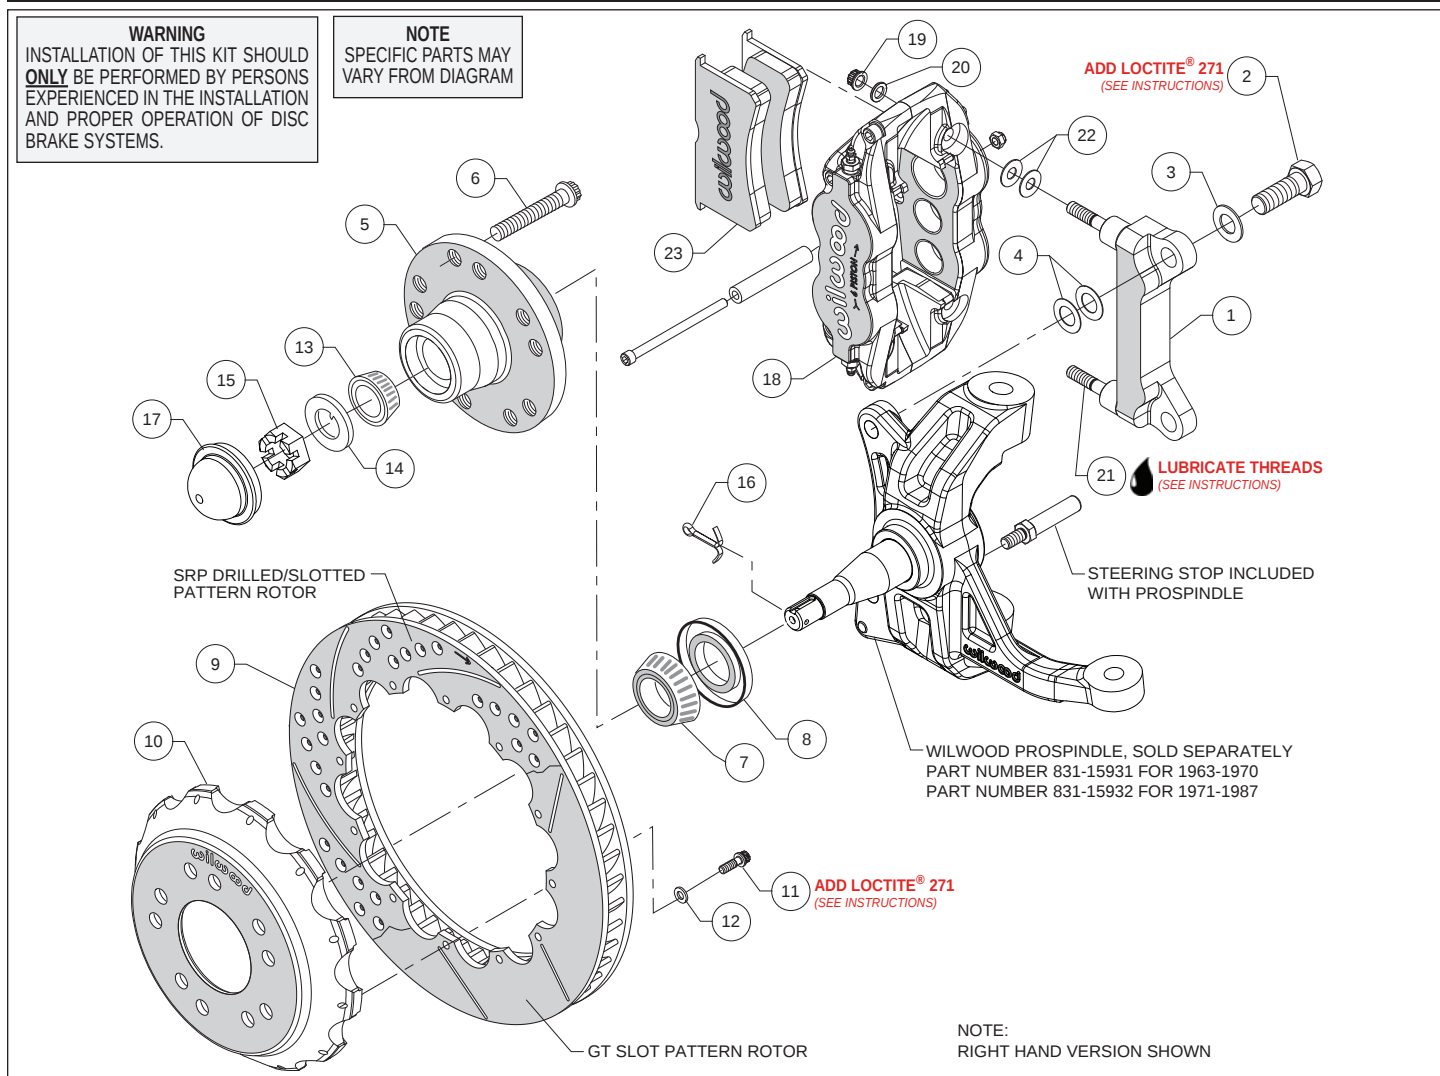
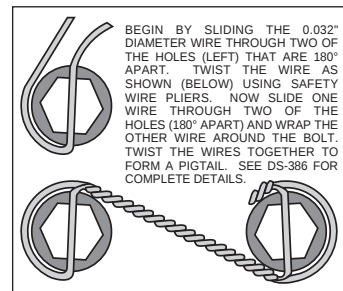

Figure 1. Typical Installation Configuration
Figure 3. Safety Wire Diagram
Assembly Instructions (numbers in parenthesis refer to the parts list and Figure 1 on the preceding pages):
- Install the steering stop bolt (included with the ProSpindle) into the spindle as shown in Figure 1 and Photo 1. Torque to 25 ft-lbs.
- The caliper mount bracket (1) should initially be installed with clean, dry threads on the mounting bolts. Orient the bracket, as shown in Figure 1 and Photo 2, and install using bolts (2) and washers (3). Initially place two .024" thick shim (4) on each bolt between the bracket and spindle, Figure 1. Temporarily tighten the mounting bolts. **NOTE:** The bracket must fit squarely against the mount bosses on the spindle. Inspect for interference from casting irregularities, machining ridges, burrs, etc. Later, after the caliper alignment has been checked, the mount bolts will be secured using red Loctite® 271.
- Press the dust cap (17) into the hub (5). **NOTE:** Do not hammer center of cap. Install using outer flange only.
- Orient the rotor (9) and the hat (10) as shown in Figure 1 and Photo 7. Attach rotor to hat using bolts (11) and washers (12). Using an alternating sequence, apply red Loctite® 271 to the threads, and torque to 155 in-lbs. For an added measure of security, the bolts may be safety wired using standard 0.032 inch diameter stainless steel safety wire as shown in Figure 3. Refer to Wilwood's data sheet DS-386 (available at www.wilwood.com/Pdf/DataSheets/ds386.pdf) for complete safety wire installation instructions.
the caliper and the bracket, as shown in Figure 1 and Photo 9. Mount the caliper (18) onto the bracket (1) using lock nuts (19) and washers (20), Figure 1. Temporarily tighten the lock nuts. Ensure that the caliper is mounted so that the largest pistons are at the rotor exit end of the caliper, in relation to the direction of rotor rotation. View the rotor through the top opening of the caliper. The rotor should be centered in the caliper, Photo 10. If not, adjust by adding or subtracting shims (4) between the bracket and the spindle. Always use the same amount of shims on each of the two mounting bolts. Once the caliper alignment is correct, remove the bracket mounting bolts one at a time, apply red *Loctite*® 271 to the threads, and torque to 140 ft-lb.